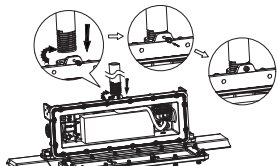

Figure 16
3. After the wiring is completed, put the threaded pipe into the hole, turn it clockwise to tighten it, and then tighten the nearby fixing screw and hold it against the threaded pipe(Figure 16).